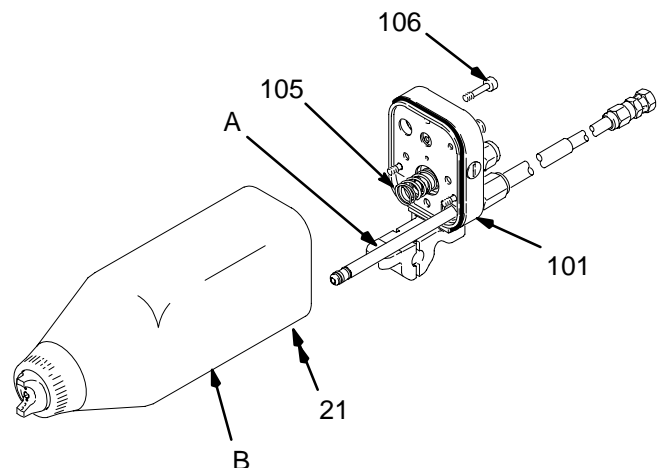

Fig. 25
4. Loosen the bottom gun screw (21). See Fig. 25.